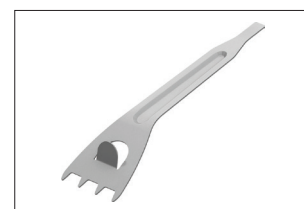

Figure A-1
1. Locate the grate cleaning tool that came with your barbecue. Use the tool to push debris to the back of the burner box (figure A-1).